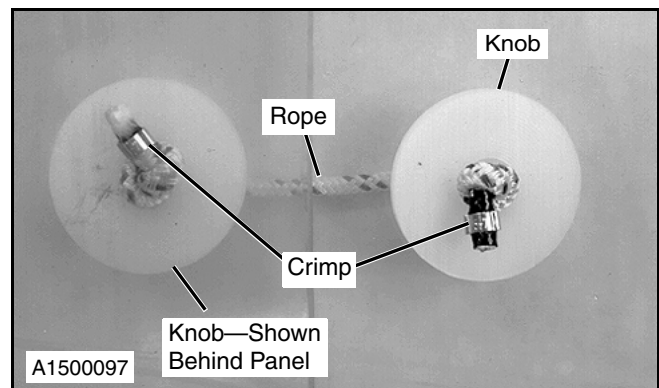

Figure 29
13. Repeat these steps for each set of knobs. Figure 29 shows a completed set of knobs, rope, and crimps.